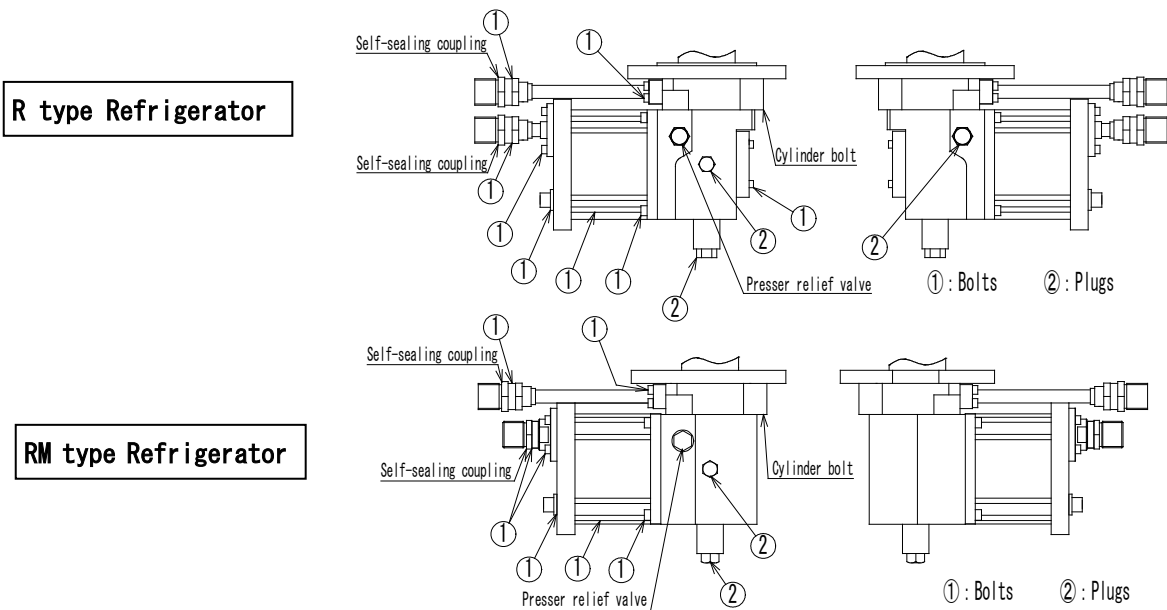

Figure 3 Bolt Locations
**NOTE: Do not loosen all the fixed components such as bolts, plugs, and pressure relief valve pointed by arrows in Figure 3 before discharging the helium gas. Ignoring this note may cause severe injury or equipment damage by flying components due to residual pressure.**